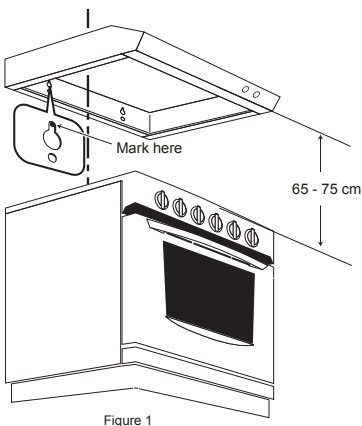

Figure 1
2. Place the hood on the wall and mark the points where the drill-holes are to be made with a pencil (Fig.1).